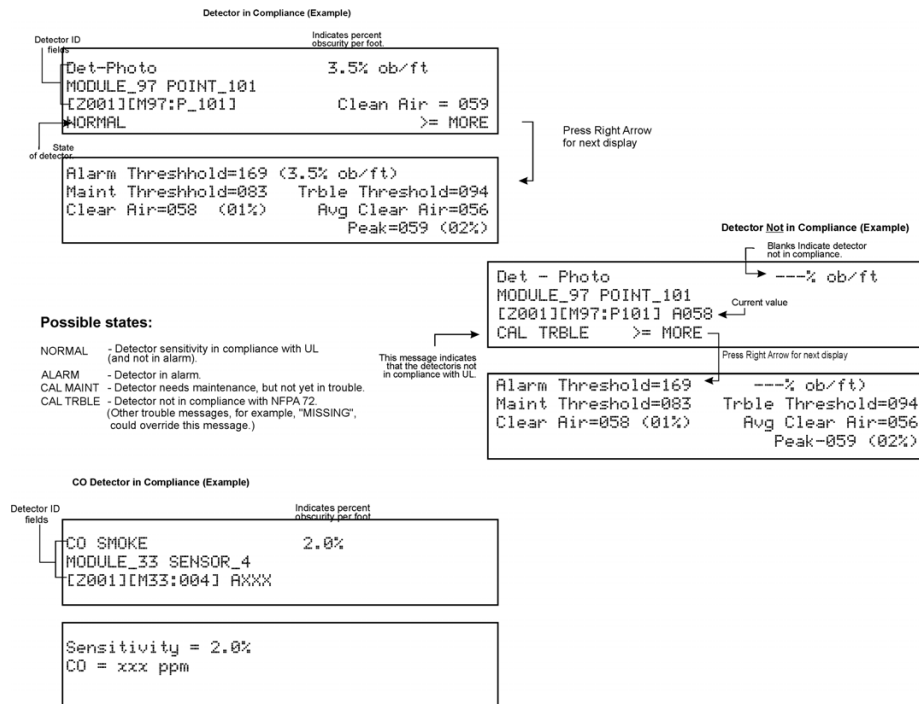

Figure 10-3 Checking Detector Sensitivity Compliance
5. A screen similar to those shown in Figure 10-3 will display.